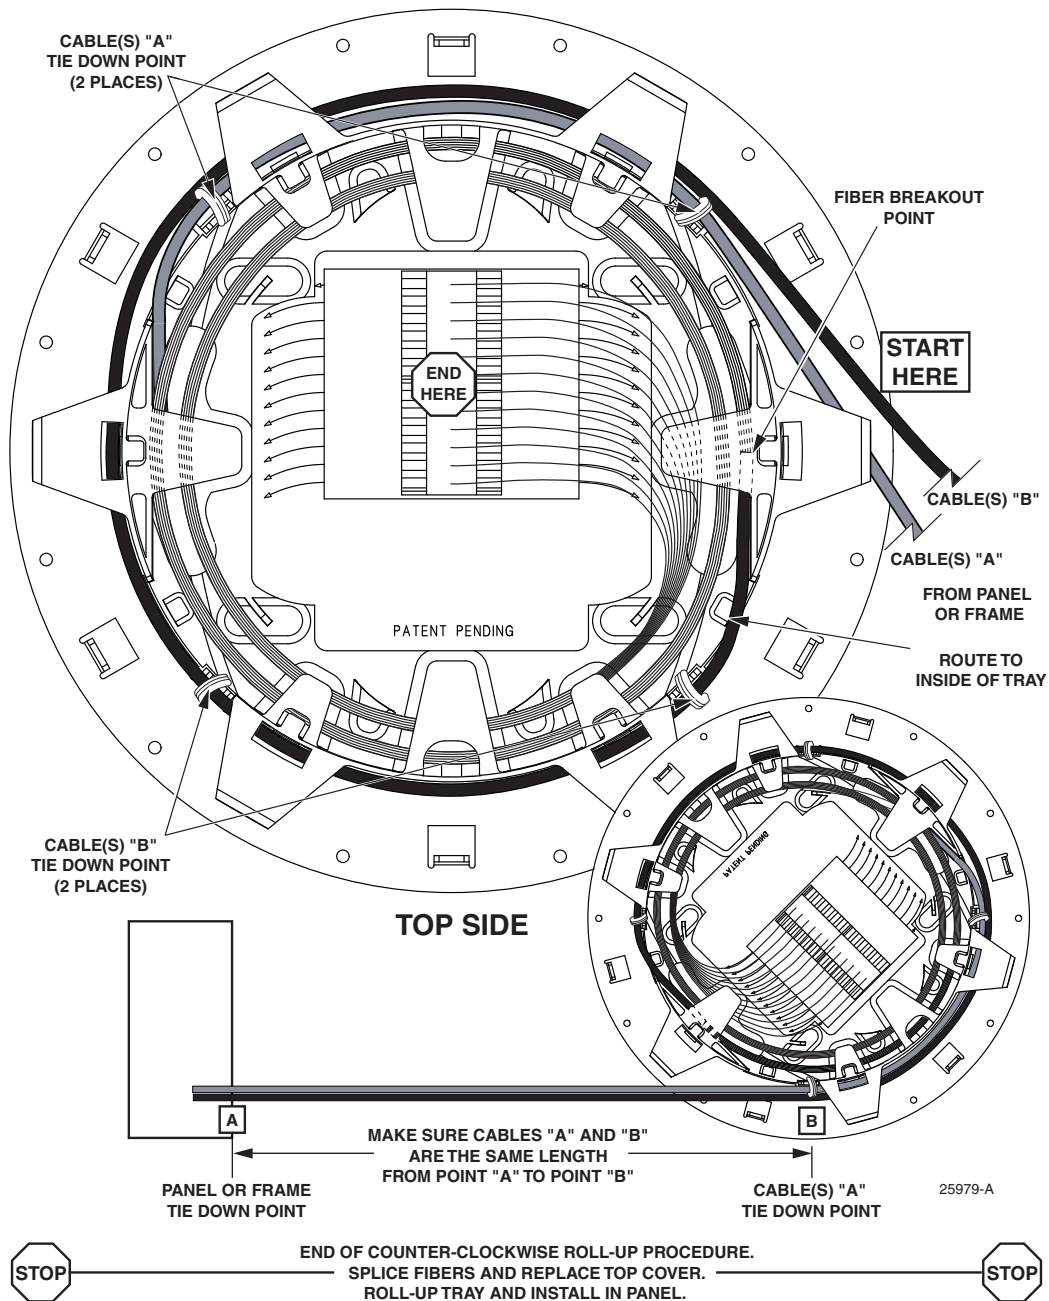

Figure 11. Cable(s) "B" Routing (Counter-Clockwise Roll-Up Procedure)
1. Route and tie down cable(s) "B" on the top side of the cable tray as shown in Figure 11. (If multiple cables are used, route cables simultaneously.) Make sure to route cable(s) "B" two times around the inside of the tray making the loop as large as possible to ensure maximum fiber storage.